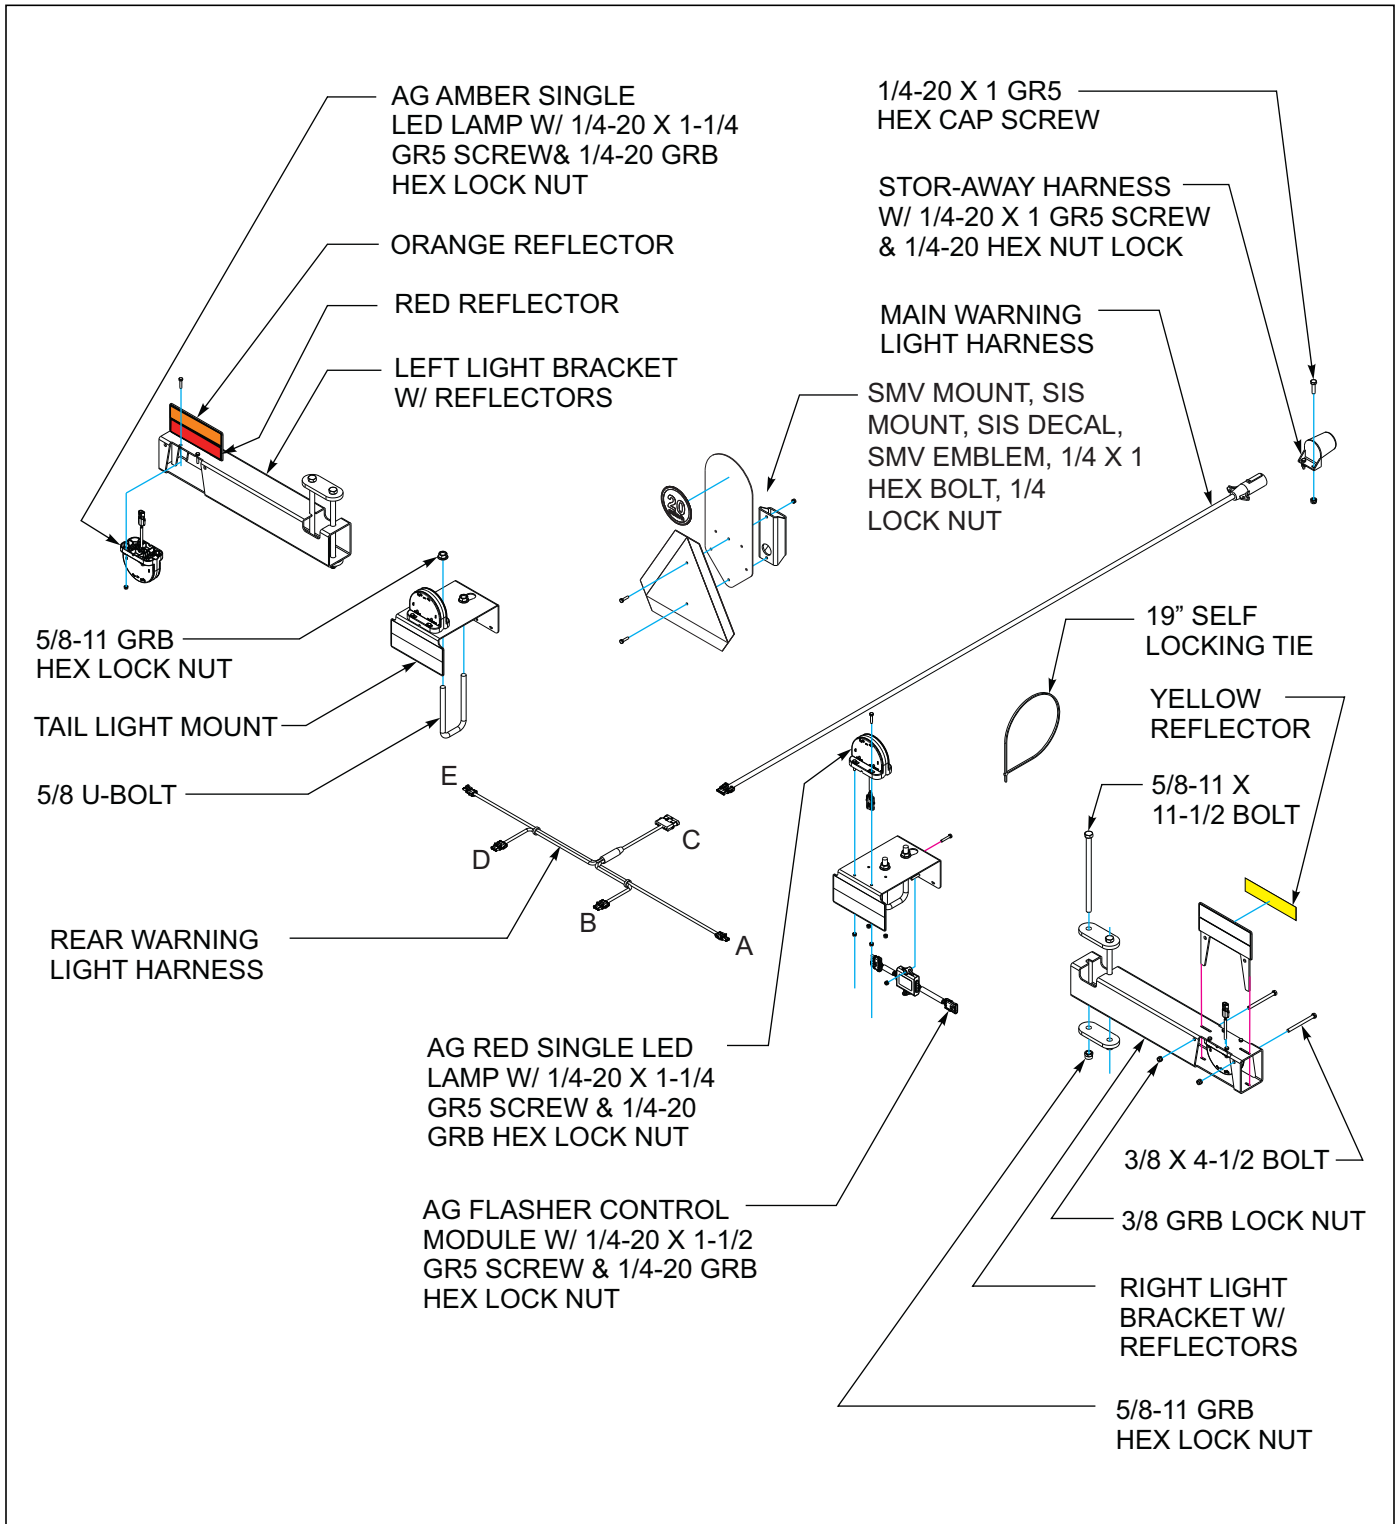

Figure 3-6: LED & SMV Bracket Installation
1. Assemble the SMV mount, SIS mount, SIS decal, SMV emblem, with 1/4 x 1 hex bolt and 1/4 lock nut (See Figure 3-6.)